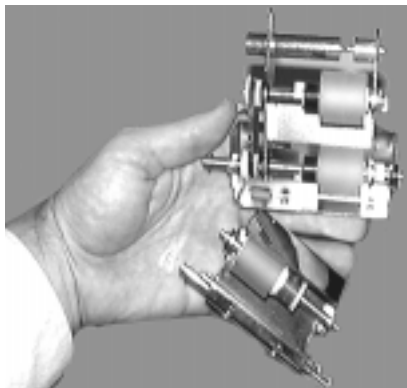

Figure D-9 HCI Roller Kit
Step 11 Unpack the new HCI pick roller kit (Figure D-9.)